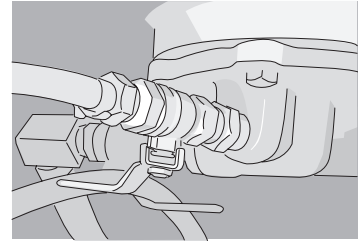
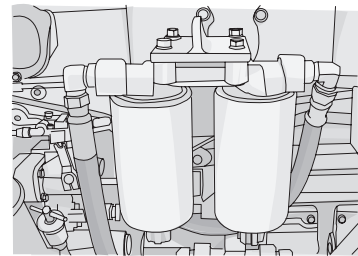

Figure 4-22
Figure 4-23
17. Exhaust impurities and water from fuel tank (Figure 4-22)
- Close the valve on the fuel tank's bottom (See Figure 4-22), and use the filter's wrench to remove the fuel filter's cartridge (Figure 4-23). Fill the new filter's cartridge with clean fuel, and apply a small amount of engine oil on the gasket. Install the filter's cartridge, tighten it with hand until the gasket contacts the filter's seat, and then tighten it 1/2-3/4 more turns (Do not tighten it too much).